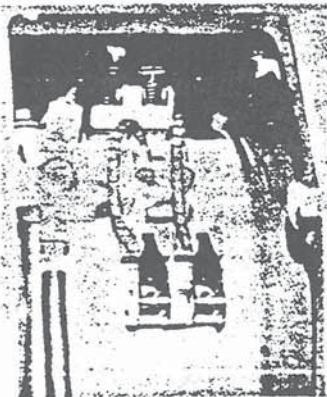

Fig. 1
- 3) Should the motors be stored over a long period, isolate the commutator surface from the brushes with paper to protect the commutator against corrosion. (Fig. 1)